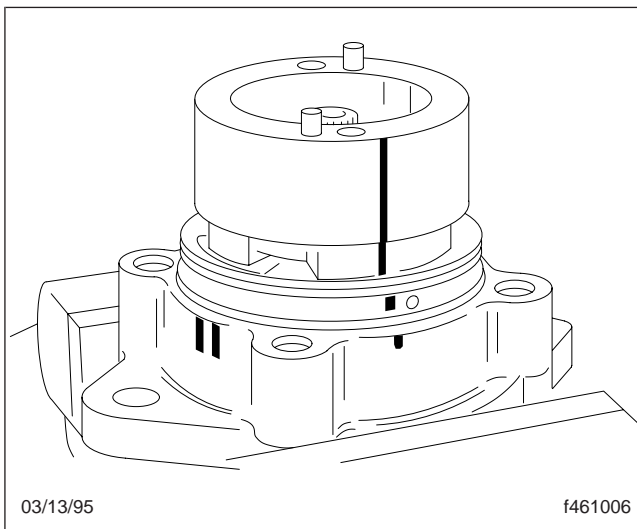

Fig. 31, Installing the Cam Ring
9. Install the cam ring with the dots facing up or down as noted during disassembly. Make sure that the cam ring is flush with the bottom plate's large outside diameter, and that the marks made during disassembly are aligned. Fig. 31.